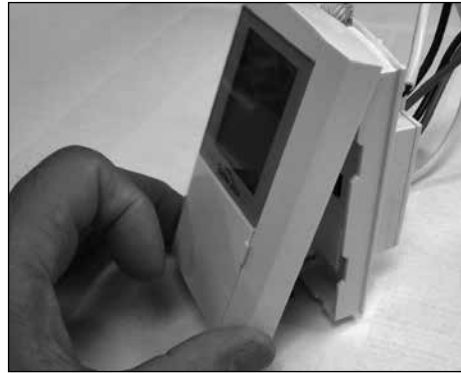

Figure 3
2. Loosen the screw on the bottom of the Front Panel and lift the Front Panel as shown in Figure 3.